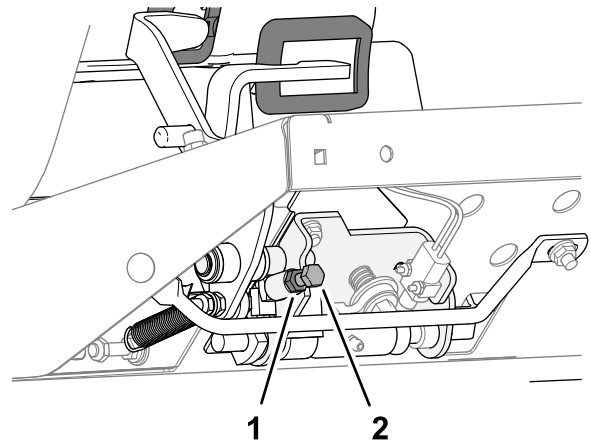

Figure 86
- To decrease the mow speed, rotate the speed stop screw (Figure 86) clockwise.